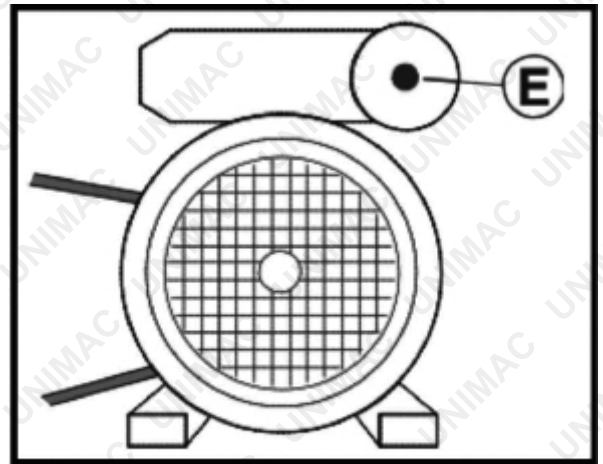

Fig. 4
SINGLE-PHASE compressors are equipped with an overload cut out (E) (Fig. 4) which operates as a safety device to protect the motor. When the motor overheats because of any fault arisen, the overload cut out automatically releases and cuts off power, thus preventing motor from being damaged. Wait a few minutes (about 5) before resetting the device, then start working again. If you restart the compressor and the overload cut out releases again, turn the main switch to position "0" OFF, unplug the equipment, and contact the place of purchase.